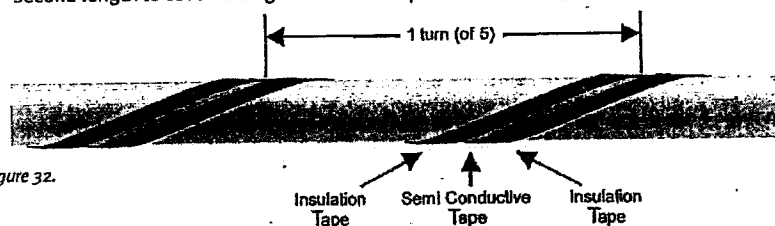

Figure 32.
12. Using the supplied Insulation Tape (or 50mm packing tape), cover the coarse spiral section of the Semi-Conductive Tape to ensure that it stays in place during the application of the Heatshrink tubes. Do this first by covering the left half of the tape, then using a second length to cover the right half of the tape for the full length of the spiral. (Figure 32)